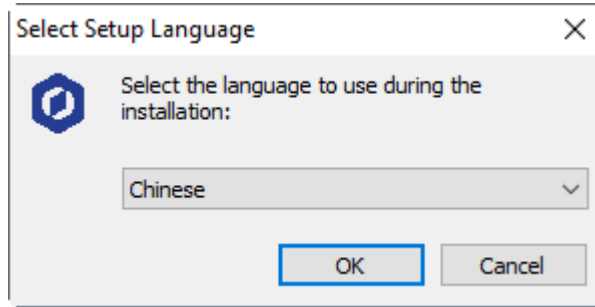

Figure 2.7 The Select Setup Language dialog box
**Step 2** In the installation directory double-click **DobotStudioSetup.exe**. The **Select Setup Language** dialog box is displayed, as shown in Figure 2.7.